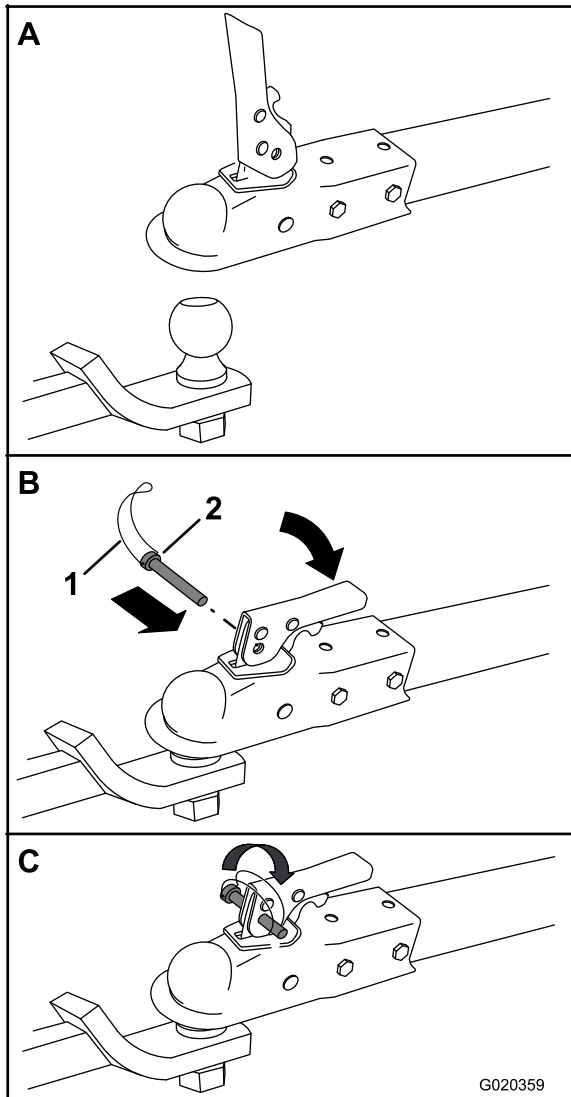

Figure 22
2. Open the coupler latch (Figure 22).
3. Position the coupler on top of the hitch ball (Figure 22).
4. Close the coupler latch (Figure 22).
5. Open the bail on the safety pin and insert the pin through the hole in the latch (Figure 22).
6. Rotate the free end of the bail over the end of the safety pin that is protruding through the latch (Figure 22).